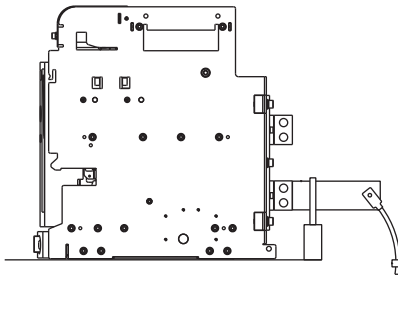

Fig. 1
- Extended outputs must be insulated, and the cable must be fixed to a solid surface (Fig. 1).